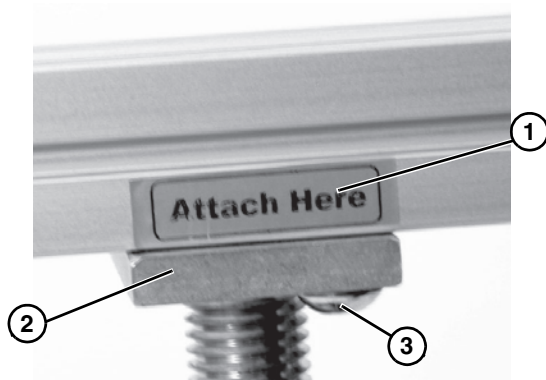

**Figure 15**
- Align the screw holes (**Figure 15, item 1**) of the stand top screw end plate (**Figure 15, item 2**) with the hex nuts in the t-slots in the crossmember tube (**Figure 15, item 3**).